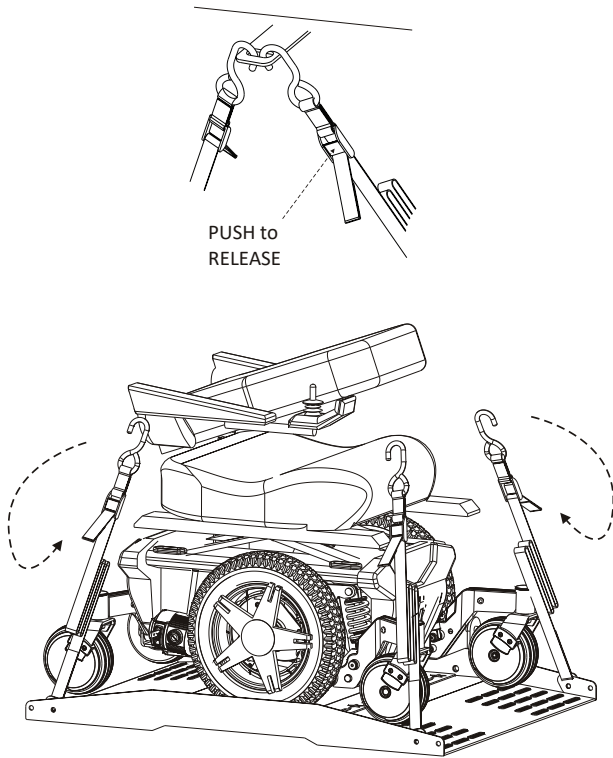

Figure 3-14
2. If the lift is secured with the cambuckle securement straps, loosen the straps by pressing the release tab on the cambuckle, pull, and then remove the hooks. *See Figure 3-14.*